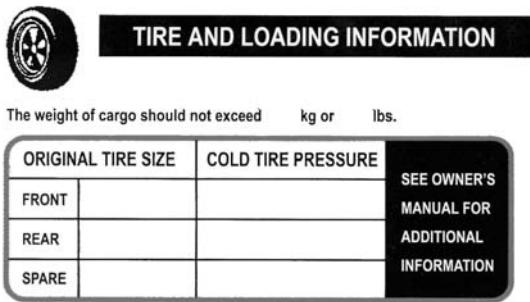

Figure S1: Vehicle Placard
- (1) Locate the statement “The weight of cargo should never exceed the XXX kg or XXX lbs.” on your vehicle’s placard. See Figure S1.
- (2) This figure equals the available amount of cargo and luggage load capacity.
- (3) Determine the combined weight of luggage and cargo being loaded on the vehicle. That weight may not safely exceed the available cargo and luggage load capacity.